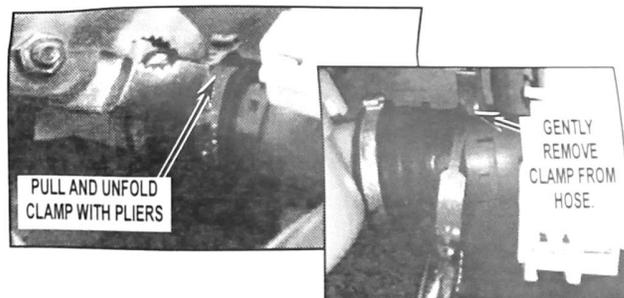

FIGURE 4
- b. Using pliers, unfold the clamp and then gently pull from one end to remove. See Figure 4.